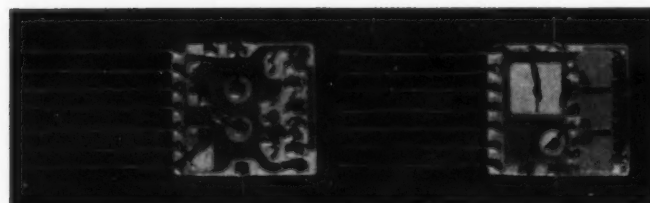

Fig. 1-3. Printed-circuit package. (Photo courtesy Centralab, Inc.)
**A. Printed-Circuit Packages.** Commercial development led to small units, such as shown in Fig. 1-3, which were included in larger circuits. These packages each contain several components and are assembled into commonly-used circuit designs.